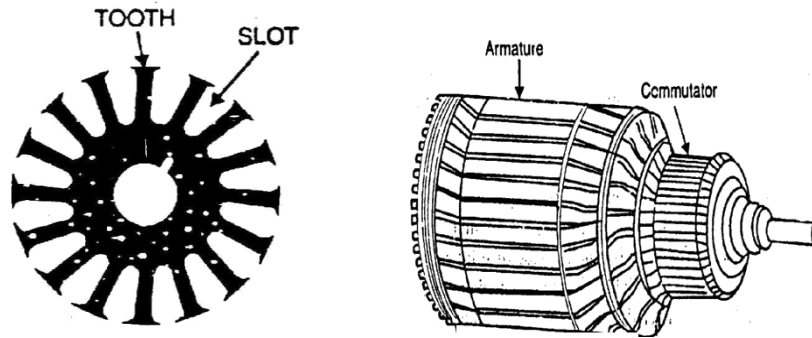

Fig 1.4 Front View of rotor lamination and final rotor cylindrical structure
- The armature core is keyed to the machine shaft (fig.1.4) and rotates between the field poles. It consists of slotted soft-iron laminations that are stacked to form a cylindrical core.